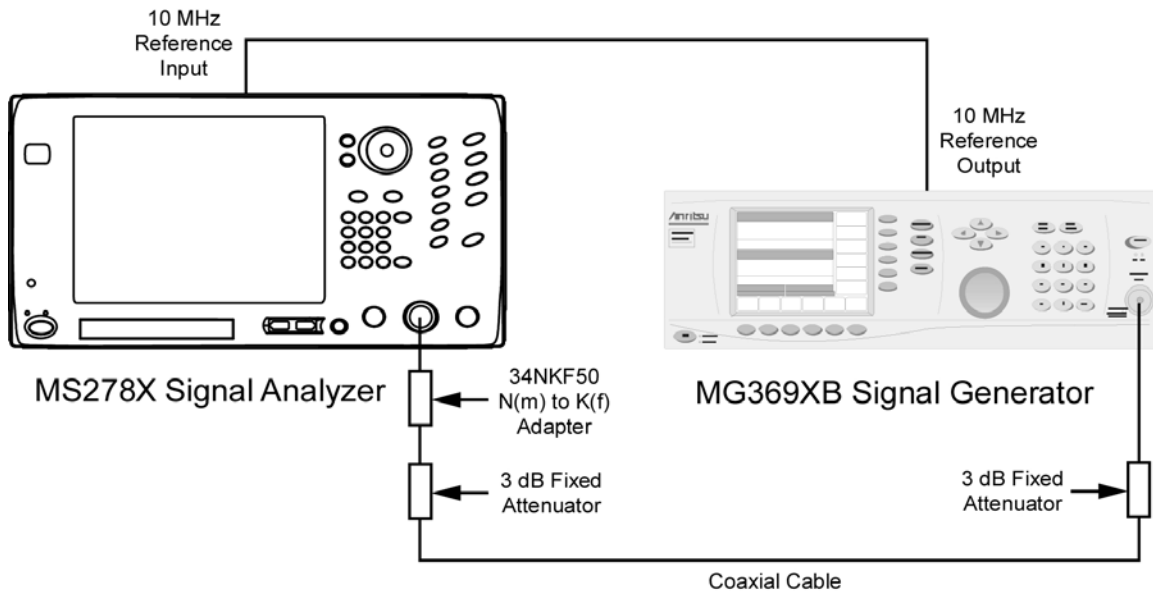

Figure 5-49. Equipment Setup for Frequency Readout Accuracy Test
1. Set up the instruments as shown in Figure 5-49.